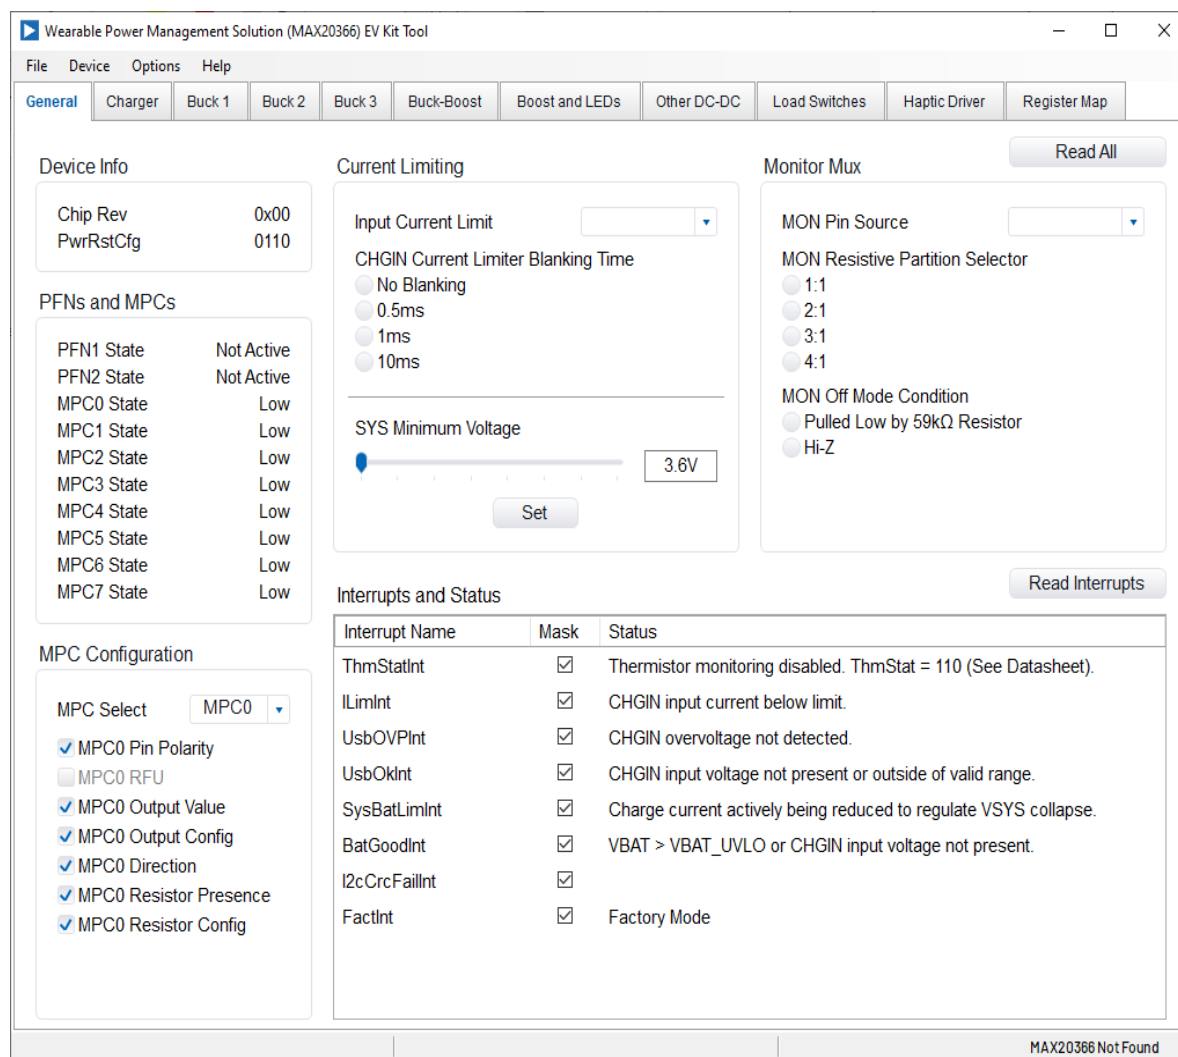
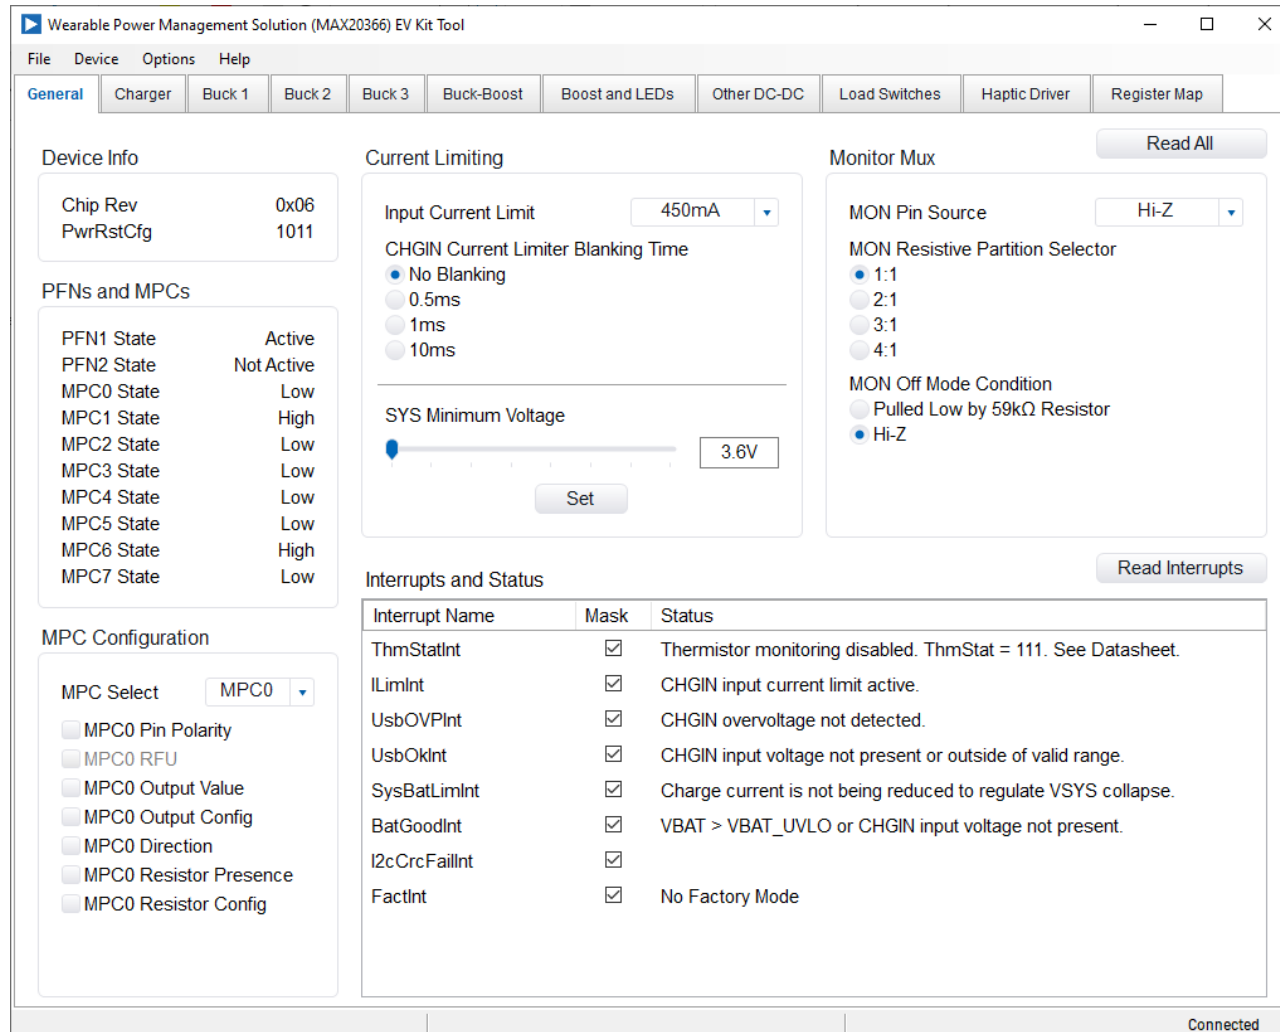

Figure 2. MAX20366 Not Found Status
Figure 3. Connected Status
8. On the computer, open the MAX20366 GUI. For the MAX20366EVKIT#, the status bar at the bottom displays MAX20366 Not Found (Figure 2). The IC is in Seal Mode. For the MAX20366HEVKIT#, the status bar at the bottom displays Connected (Figure 3). The IC is in Battery Recovery Mode.
9. Press the PB1 (/KIN) button shortly, then the device enters ON mode. For the MAX20366EVKIT, the GUI then displays Connected, and the registers are read and displayed (Figure 3).